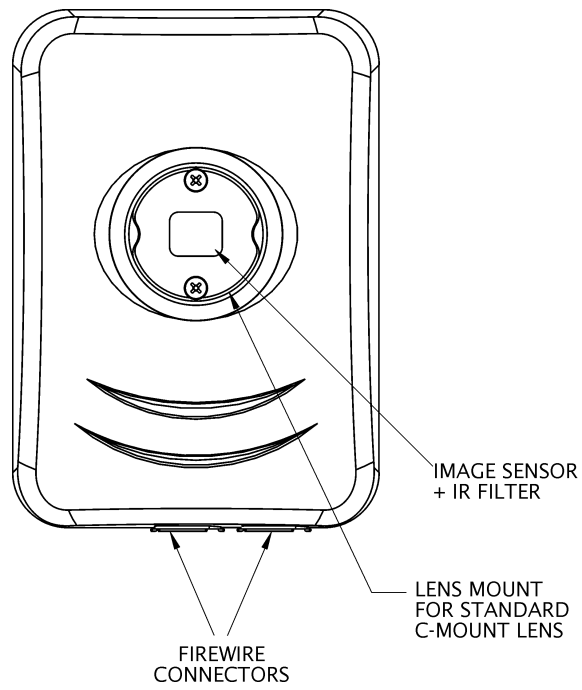
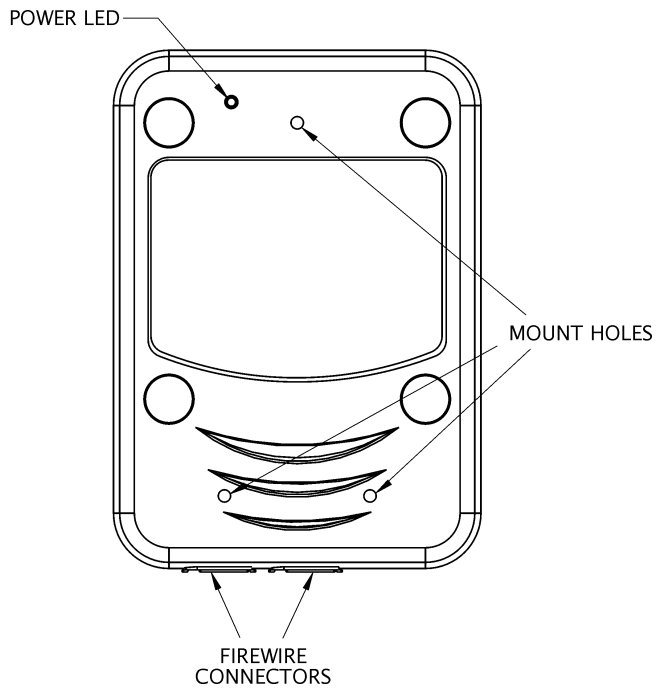

Figure 3.2 Camera Features, Top View
Figure 3.3 Camera Features, Bottom View
- Integrated infra-red (IR) filter over the image sensor
See Figure 3.2 and Figure 3.3 (on page 11) for locations of hardware features. Note that outlines of the PL-A661 and PL-A662 cameras are shown in these figures; PL-A641 and PL-A642 cameras differ in the configuration of the C-mount and infra-red (IR) filter.
The camera can be fitted with a standard C-mount lens or attached to a microscope with a suitable coupler. Simply attach the lens or connect to the microscope using the threaded lens mount indicated in Figure 3.2 on page 11.